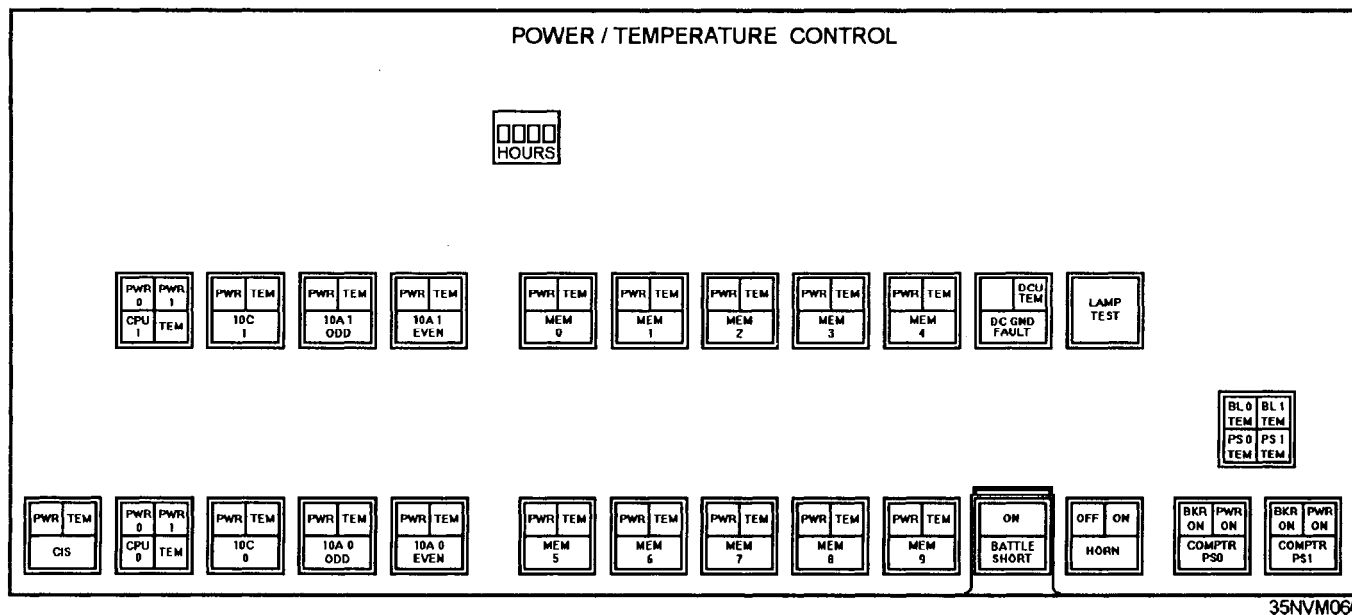

Figure 8-29.—Example of the panel of a power controlling device.
**APPLY POWER.—** Applying power to mainframes also requires more than just turning on the ON/OFF switch. First, you must ensure there is power to the remote panel. Then at the unit itself, usually a circuit breaker must be applied, then blower and logic power. Indicators are usually provided for blower and logic to show there is stable power. Power to a mainframe is critical and you must ensure there is a stable power source. In addition to the circuit breaker protection, interrupts are generated if there are abnormal power fluctuations in which case the computer will shut itself down. Mainframes also use a 4-digit time meter to record the accumulated hours that logic power has been applied, except when there is a time meter for each module unit. Some mainframes have a separate power controlling device devoted entirely for power. It is usually on the front of the unit. Figure 8-29 is an example of a panel of such a device. It also monitors the temperature of the computer set.
Mainframes are also equipped with a **battle short switch** (also indicated on figure 8-29) and an audible alarm to allow the computer to run even when the temperature exceeds the normal allowable operating temperature established by the manufacturer and to indicate excessive temperature in the modules.